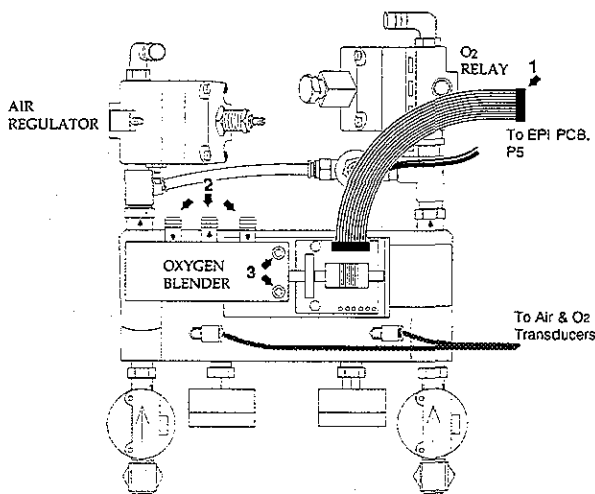

Figure 8-3
1. Remove the ribbon cable (Figure 8-3, Ref. 1) at its connection on the EPI PCB.
2. Mark or tag the PVC hoses (Figure 8-3, Ref. 2) coming from the Blender and remove.
3. Remove the two mounting screws (Figure 8-3, Ref. 3) and remove the Blender from the ventilator.